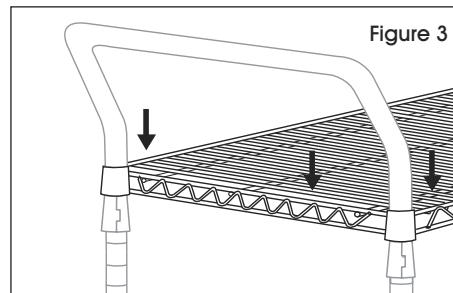

Figure 3
- After snapping together all of the shelf supports at the proper height, slide the shelf down over the supports to secure the shelf. (See Figure 3)